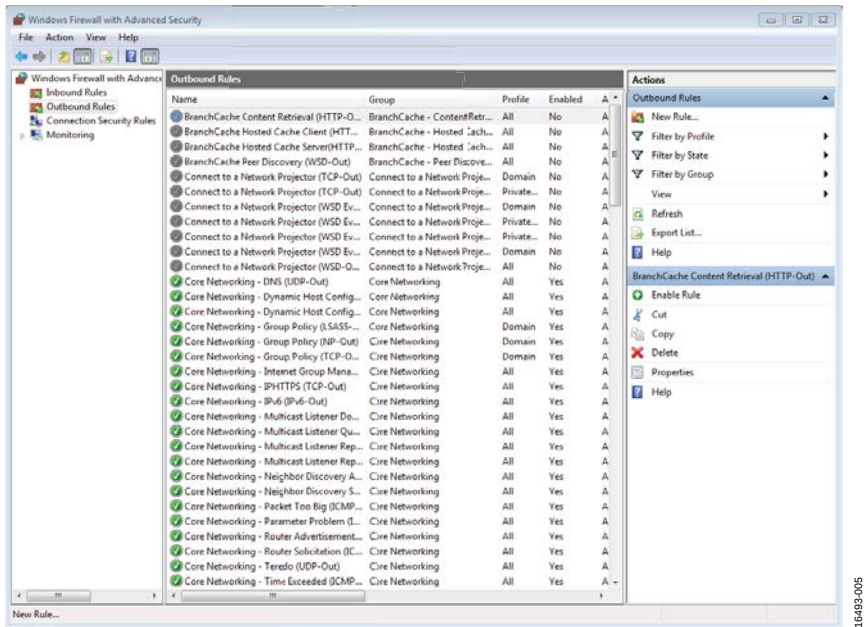

Figure 6. Windows Firewall with Advanced Security Window
| Changes to Figure 6 Caption .....                                                                                                                                                                      | 7         |
8. Create an outbound transmission control protocol (TCP). Create an always allow rule for the firewall for Port 22 and Port 55555 in Windows Firewall or other antivirus programs (such as Avast, Norton, AVG, or Sophos), as shown in Figure 6. Steps for creating these rules in Windows Firewall follow.